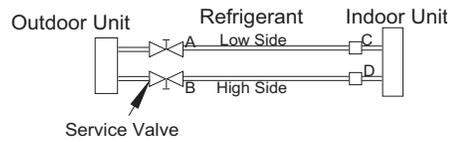

Fig. 19 – Service Valve
1. Completely tighten the flare nuts A, B, C, D, connect the manifold gage charge hose to a charge port of the low side service valve (see Fig. 19).